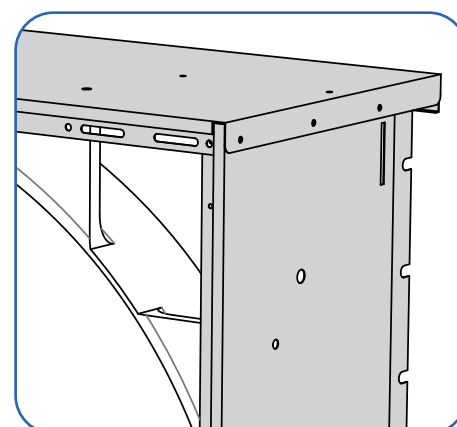

Fig. 28. Do not put any rivet on the right upper corner.
- Do not put any rivet on the corner where we will put the motor as we will assemble the guide square [07] inside this hole later on (Fig.28).